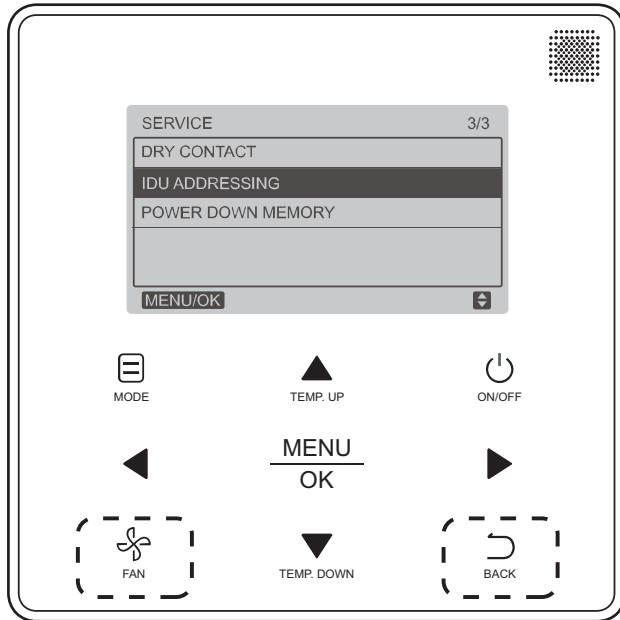

Fig. 28 — Programmable Controller (40VM900003) IDU Addressing Menu
1. Press **FAN** and **BACK** simultaneously for 5 seconds to access parameter settings as shown in Fig. 28.